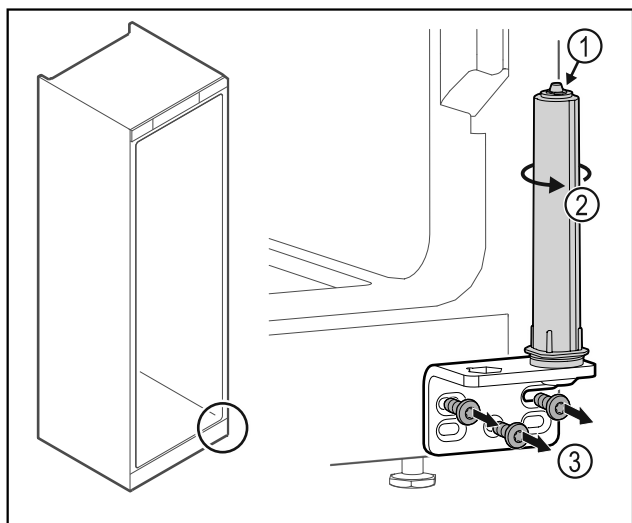

Fig. 14
- Do not disassemble the door closing system *Fig. 14 (1)*.
- Turn the closing system *Fig. 14 (2)* until it clicks.
- Unscrew the hinge *Fig. 14 (3)*.